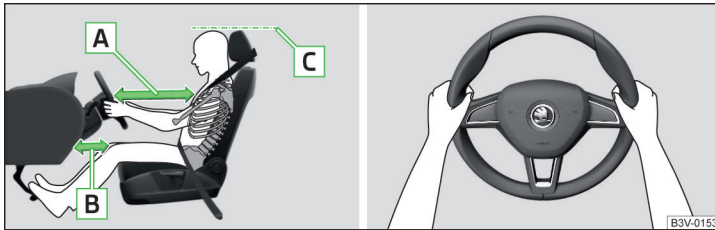

Fig. 2 Correct seated position for the driver/correct steering wheel position
- ✓ For vehicles with driver knee air-bag adjust the driver's seat in a forward/back direction so that there is a gap of at least 10 cm between the legs and the dash panel in the vicinity of the knee airbag - [B] » Fig. 2.
- ✓ Adjust the steering wheel so that the distance [A] between the steering wheel and your chest is at least 25 cm » Fig. 2.
- ✓ Adjust the head restraint so that the top edge of the head restraint is at the same level as the upper part of your head [C] » Fig. 2 (not for seats with integrated head restraint).
- When driving, hold the steering wheel with both hands firmly on the outer edge in the "9 o'clock" and "3 o'clock" position » Fig. 2. Never hold the steering wheel in the "12 o'clock" position or in any other way (e.g. in the middle, inner edge of the steering wheel or similar). In such cases, you could severely injure the arms, hands and head when the driver airbag is deployed.
- ✓ Adjust the head restraint so that the top edge of the head restraint is at the same level as the upper part of your head **C** » Fig. 2 on page 9 (not for seats with integrated head restraint).
- ✓ Adjust the head restraint so that the top edge of the head restraint is at the same level as the upper part of the head **C** » Fig. 2 on page 9.